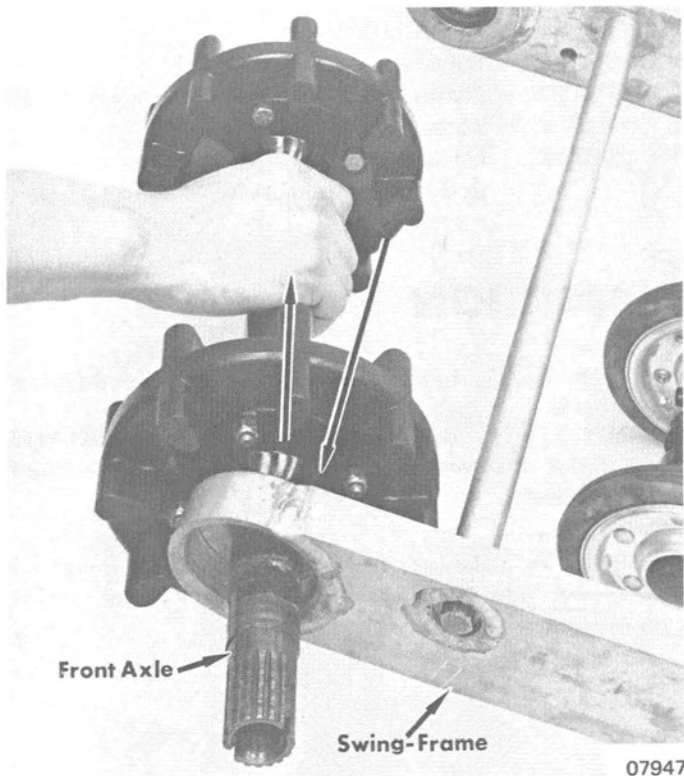

Figure 1. Front Axle Removal
1. Refer to Figure 1 and install rear axle assembly. When rear axle is installed, right idler arm must be on right side and left idler arm on left side